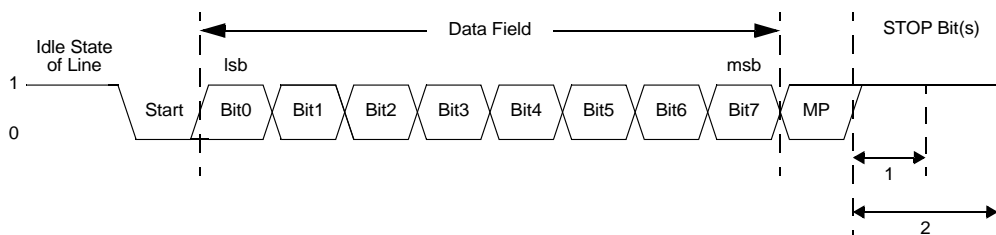

Figure 70. UART Asynchronous Multiprocessor (9-bit) Mode Data Format
The UART has a Multiprocessor mode that uses an extra (9th) bit for selective communication when a number of processors share a common UART bus. In Multiprocessor (9-bit) mode (also referred to as 9-Bit mode), the multiprocessor bit (MP) is transmitted immediately following the 8-bits of data and immediately preceding the STOP bit(s) as illustrated in Figure 70. The character format is: